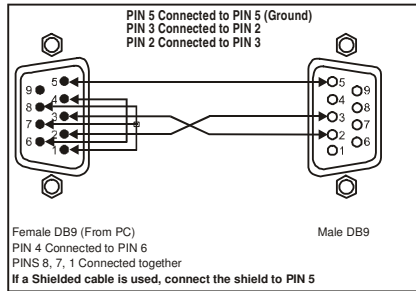

Figure 3: Connecting a PC without using a Null-modem Adapter
- Connect the RS-232 DB9 port on your PC to the RS-232 DB9 rear panel port on the Master **VS-41HDMI** unit, as Figure 3 illustrates